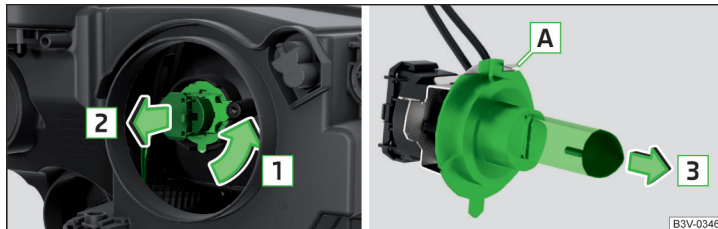

Fig. 262 Replacing the bulb for low beam and main beam
- » Turn the holder with the bulb in the direction of arrow **1** » Fig. 262.